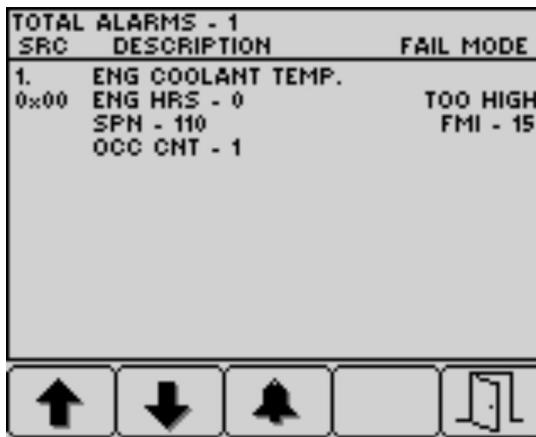

Figure 34
4. Press button 5 to exit the active fault list and return to the home screen (Figure 34).
- Press button 5 to exit the active fault list and return to the home screen; refer to Figure 34 in Engine Advisories Messages \(page 33\).